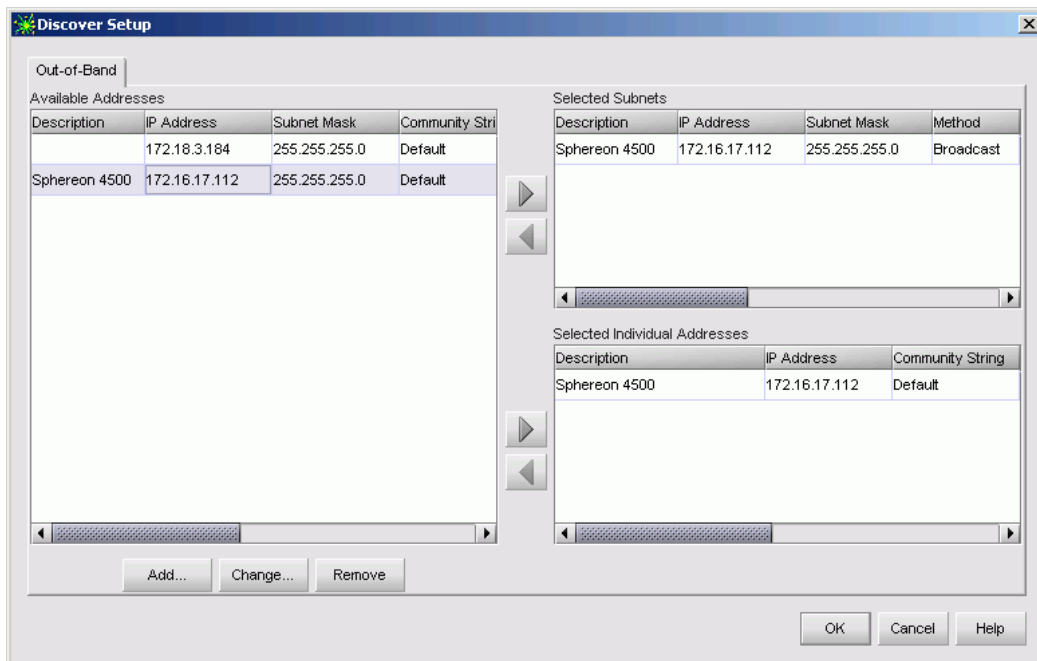

Figure D-12 Discover Setup Dialog Box
- a. At the SAN management application (SANavigator or EFCM main window), select the *Setup* option from the *Discover* menu. The *Discover Setup* dialog box displays (Figure D-12 on page D-10).